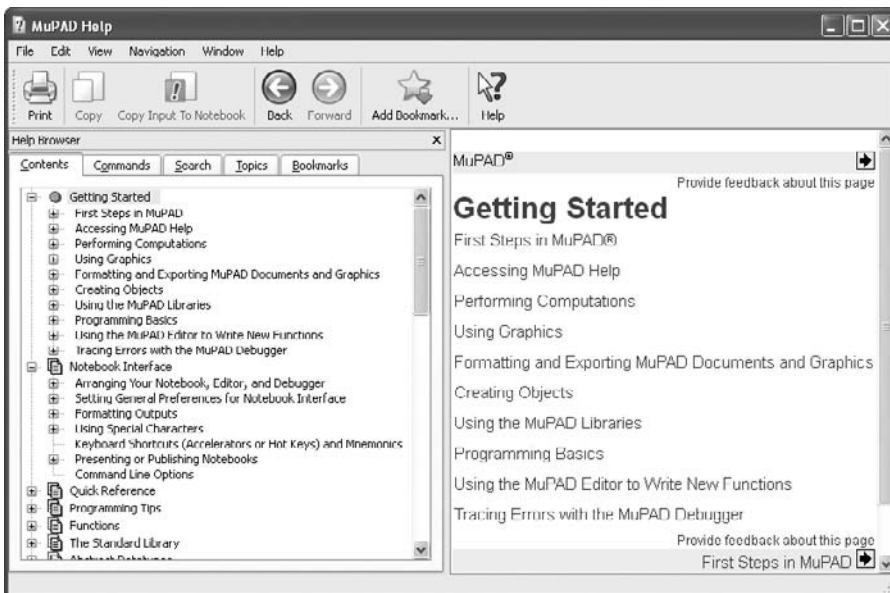

Figure 11.1-2 The Getting Started screen.
**Steps.** Clicking on **Getting Started** opens the screen shown in Figure 11.1-2, which has a variety of Help topics. The left-hand pane has a list of topics that can be expanded or collapsed by clicking on the + or – signs. The right-hand pane contains a shorter list of topics.